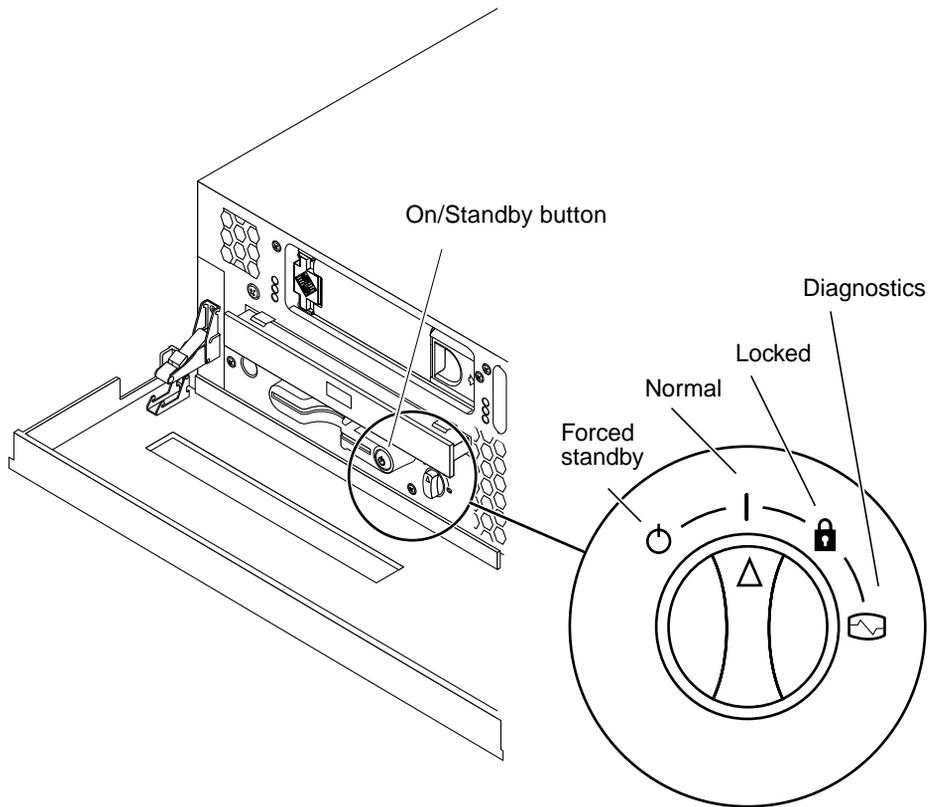

FIGURE 3-2 Rotary switch positions
4. Ensure that the rotary switch is in the Normal or Diagnostics position (FIGURE 3-2).